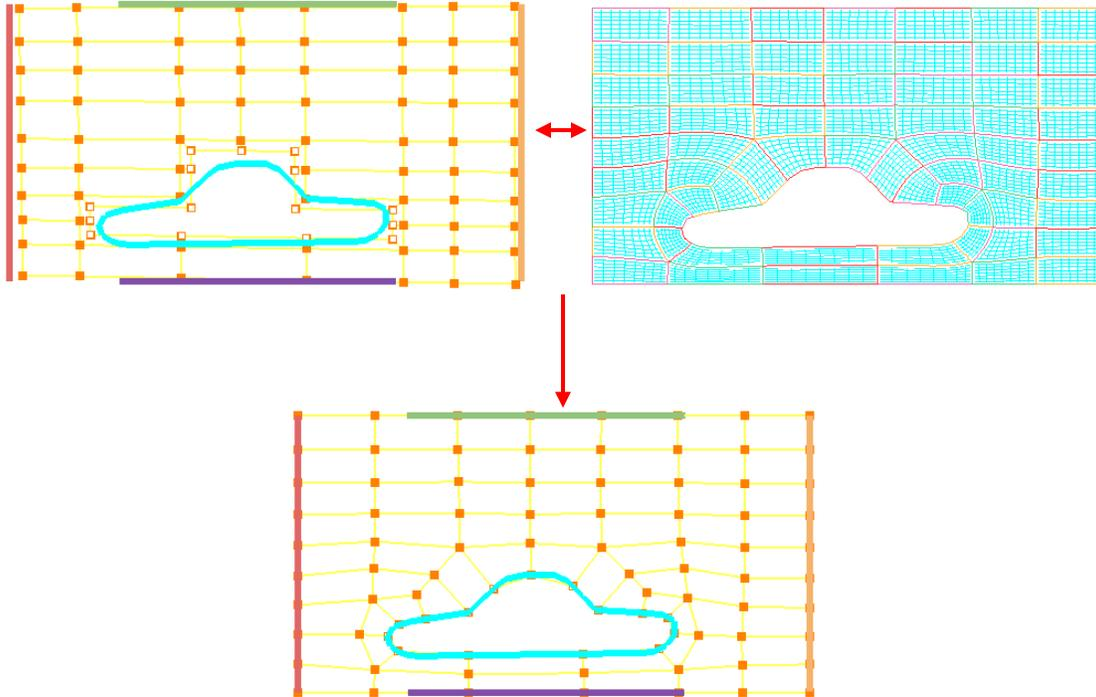

Figure 4.107: Before and after aligning to grid
*Align To Grid* is a kind of projection that synchronizes the position of the topology corners and the edges with the grid blocks existing in the grid tab. A multi-block *GridPro* grid should exist in the grid tab that should match the blocking pattern and the block count of the topology that has to be projected. Both the topology and the grid should exist in the current session of the *GridPro*. Figure 4.107 shows the topology before and after sync.